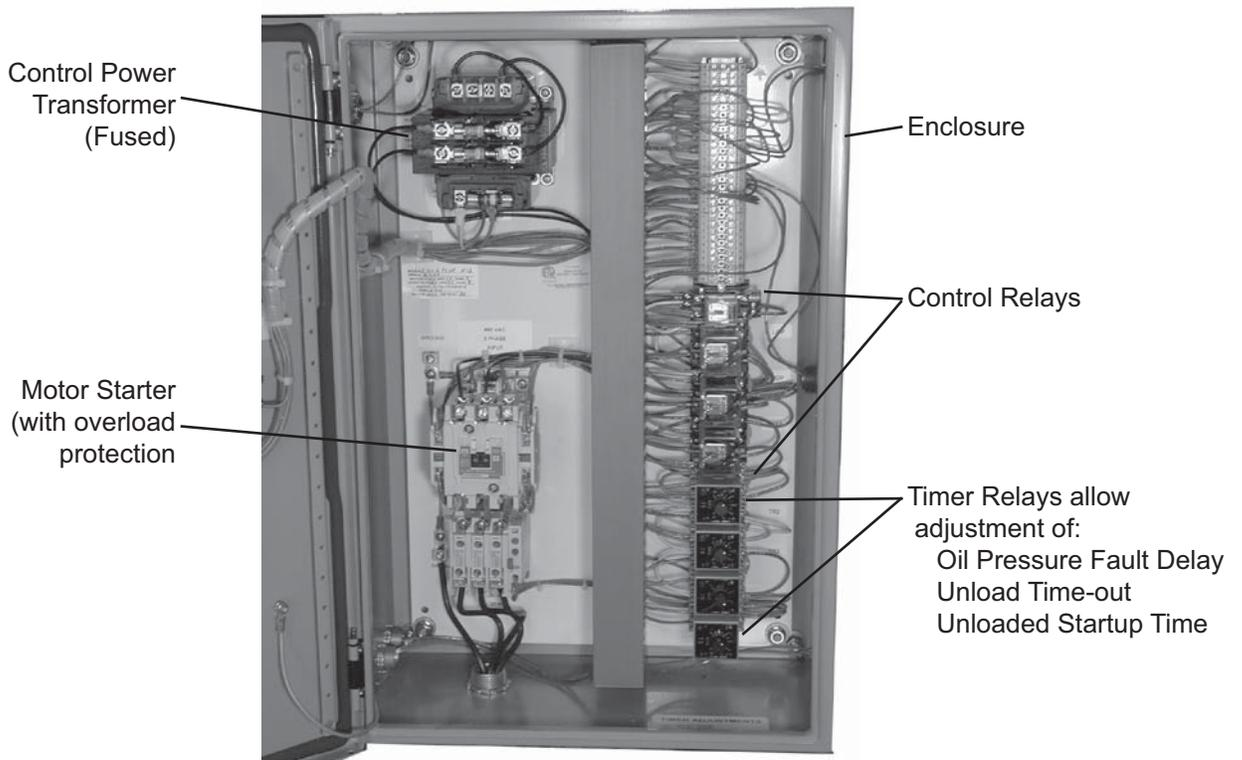

Figure 21a: Unloader Control Timer Relay Adjustment
compressor system for maximum operational efficiency and minimum energy consumption (see Figure 21a).
**Unload Startup Timer** - This timer relay is set at the factory so the compressor will run unloaded for 8-12 seconds at startup, allowing oil pressure to build before loading (see Figure 21a). The time must be set longer than the Low Oil Pressure Timer.
**Low Oil Pressure (LOP) Timer** - This timer relay is set at the factory to bypass the oil pressure switch during the first few seconds when starting up the compressor. The timer is usually set for 6 to 10 seconds to give the compressor time to build oil pressure (see Figure 21a). Changes in oil viscosity or ambient temperature may require minor timer adjustment.